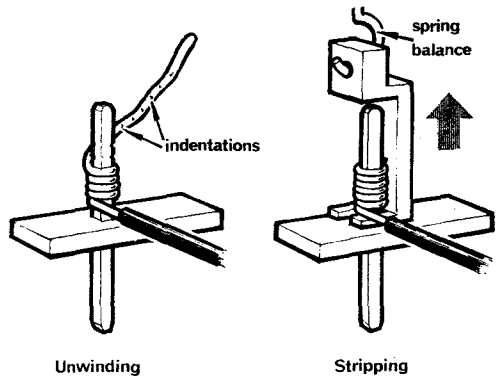

Fig. 27. Testing a wrapped joint
39. Periodic checks. To check that the wrapping tool is operating correctly periodic tests should be made on the joints formed. A correctly made joint of 24 SWG wire on a standard terminal pin should require a pull-off force of not less than 7 lb. (see Fig. 27). A second test for wire tension is made by carefully unwrapping a joint. Indentations should be seen where the wire was wrapped round the terminal post corners (Fig. 27). These indentations should not be so deep as to appreciably weaken the wire.